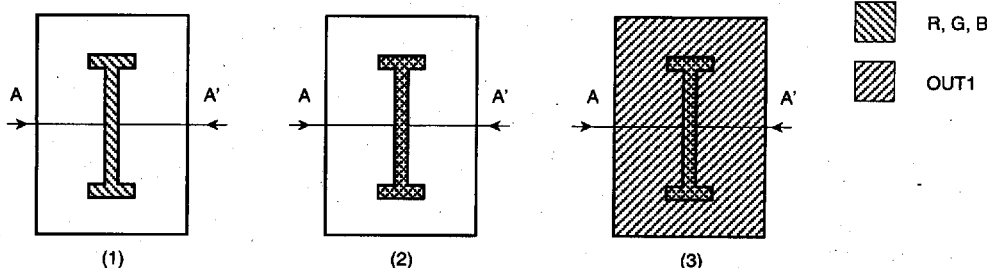

Fig. 59 Switch between character output and character area blank output
Whether the OUT1 pin outputs or not is switched by bit 3 of the attribute code. When the OUT1 pin outputs, which of the character output or character area OUT1 blank output is switched for each block by the OUT control register (address 021016) (refer to Figure 59). However, when the solid space auto-generating function is turned on, the character area blank output may be selected regardless of the above bit. For the solid space auto-generating function, refer to (9) Automatic Solid Space Function.